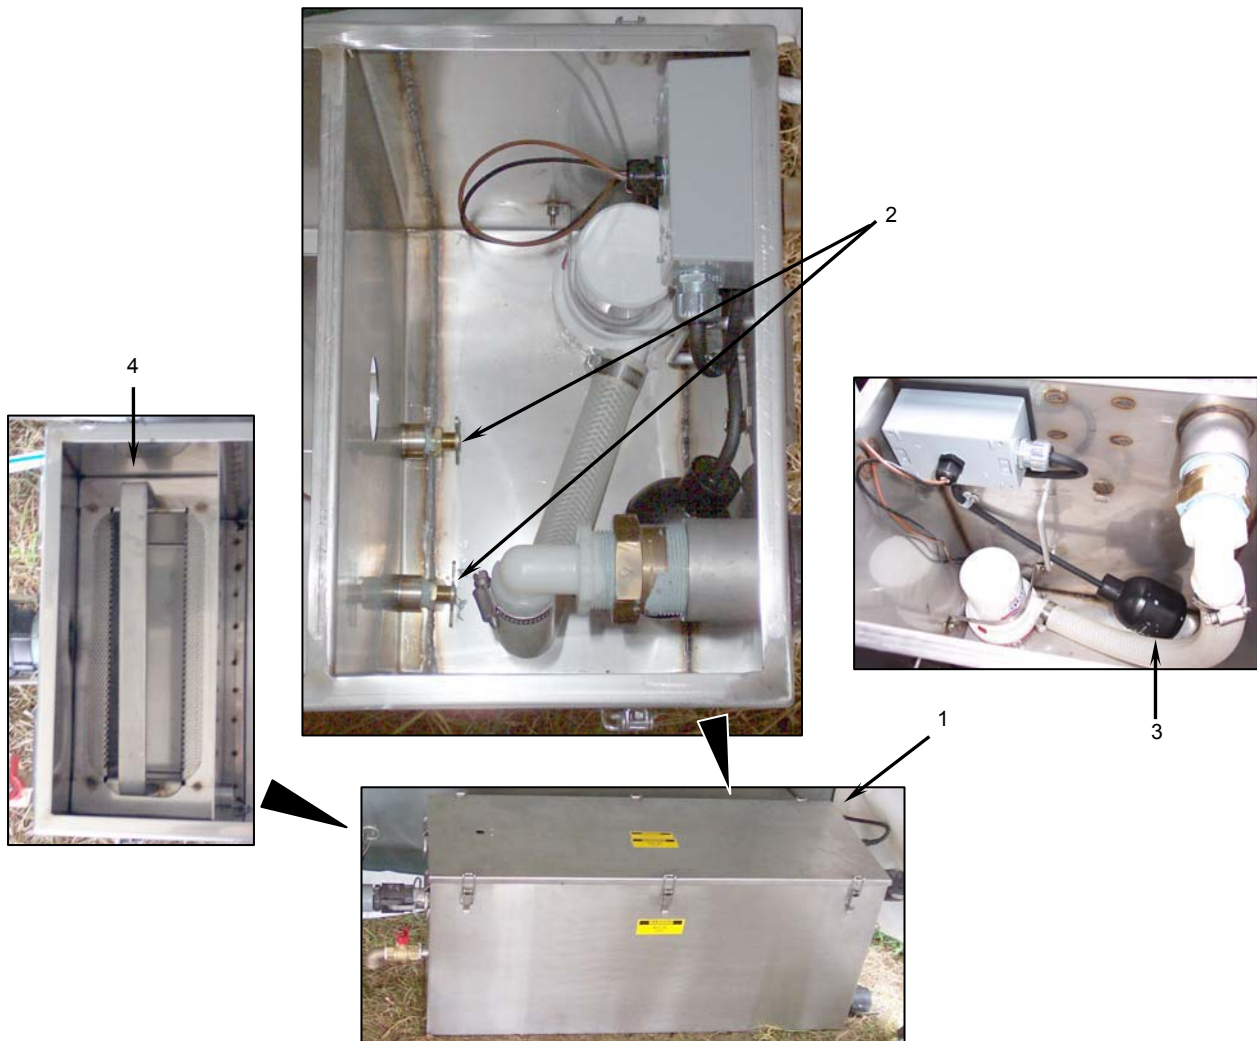

Figure 16. Grease Separator Component Checks.
- f. Remove the grease separator lid (**Figure 16, Item 1**).
- g. Check that the two grease collection compartment drain petcocks (**Figure 16, Item 2**) are closed (turned clockwise all the way in).
- h. Check that the float switch (**Figure 16, Item 3**) is not obstructed and is free to move up and down.
- i. Check that the strainer basket (**Figure 16, Item 4**) is in place.